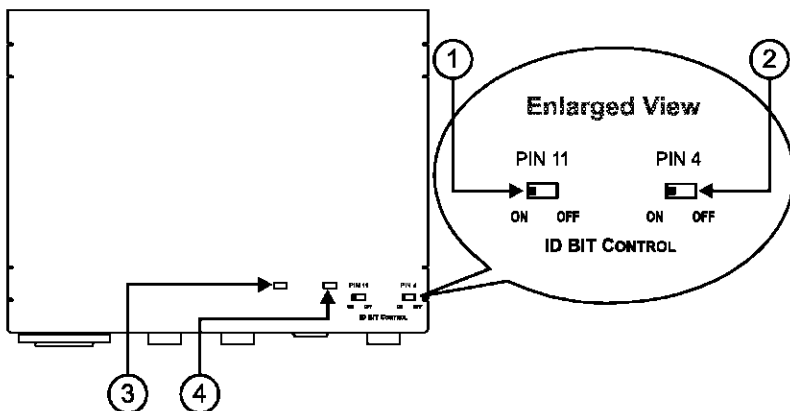

Figure 7: VP-5T 1:4 VGA/UXGA Distributor / CAT5 Transmitter (Underside)
Figure 7 and Table 7 define the underside of the **VP-5T/VP-5T(HD) 1:4 VGA/UXGA Distributor / CAT5 Transmitter**.